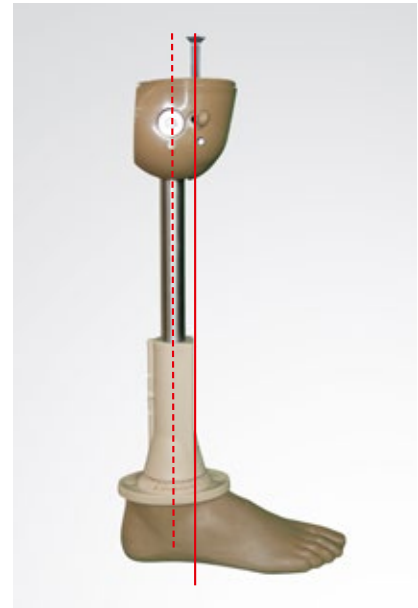

Fig 25
- The knee axis is on the same vertical line as the stainless-steel pylon tube: (Fig 25).